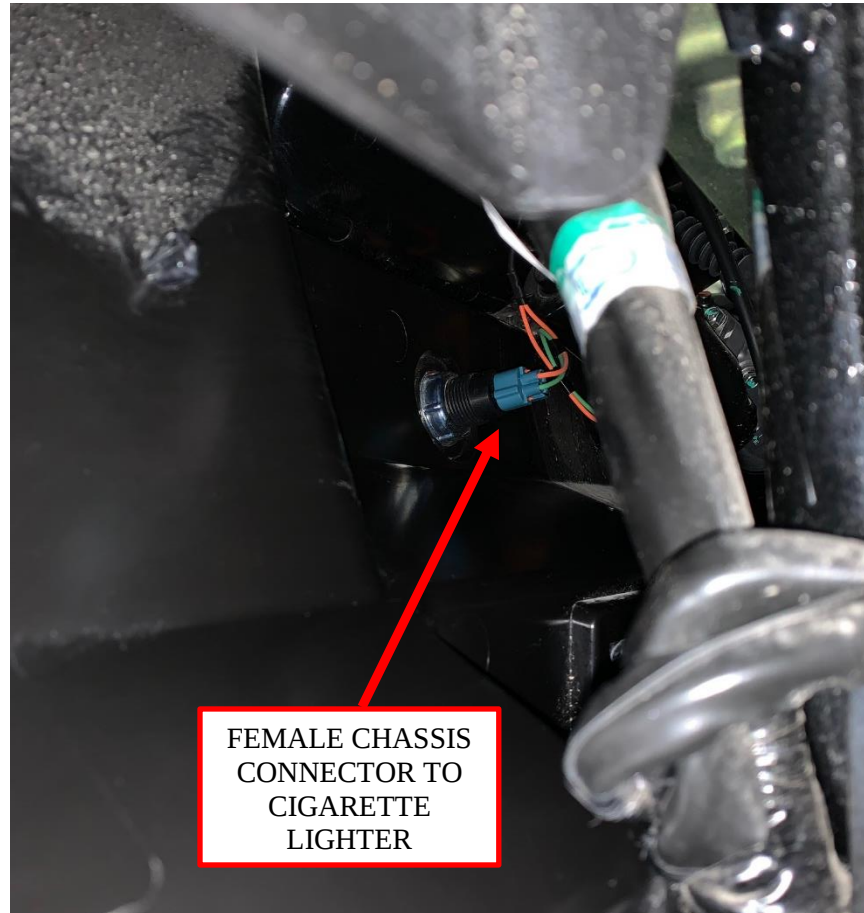

Figure 17: Connection location for chassis harness connectors.
16. The female ignition connector will replace the OEM connector attached to the back of the accessory cigarette lighter as shown in Figure 17. This connection point is accessible through the hood opening under the rubber protector (Figure 17 from wheel well shown for a better view). The male connector on the chassis harness can then be connected to the OEM female connector.
17. Connect the Audio Shade roof to the chassis wire harness. Align the connector terminals and rotate the connector housing $\frac{1}{4}$ turn to lock in place. See Figure 17.